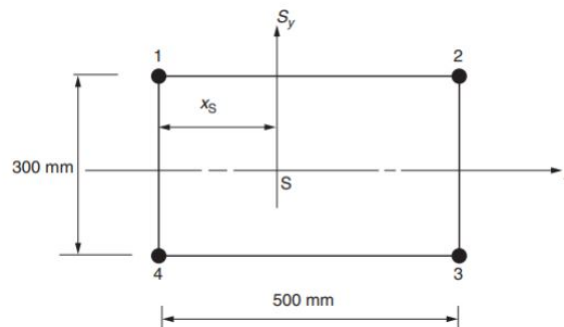

Figure 3
- (b) The section indicated in Figure 3 is subject to a vertical shear force 1.2 kN acting through the shear center. Obtain and plot the resulting shear flow pattern. Area of boom 1, 2, 3, 4 = 2 cm^2 . Find the horizontal distance between the shear center and point 4.